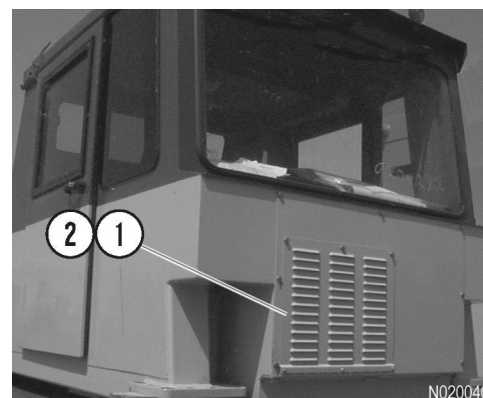

FIGURE 2-4.
10.	CAB AIR FILTER - Under normal operating conditions, clean every 250 hours. In extremely dusty conditions, service as frequently as required. Clean the filter element with mild soap and water. Rinse completely clean and air dry with a maximum of 40 psi (275 kPa). Reinstall the filter. Refer to Figure 2-4.